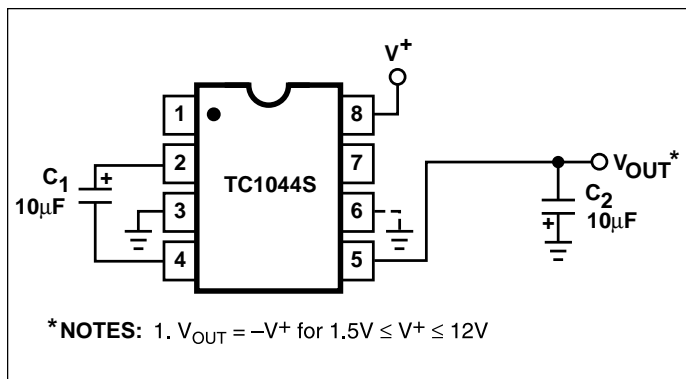
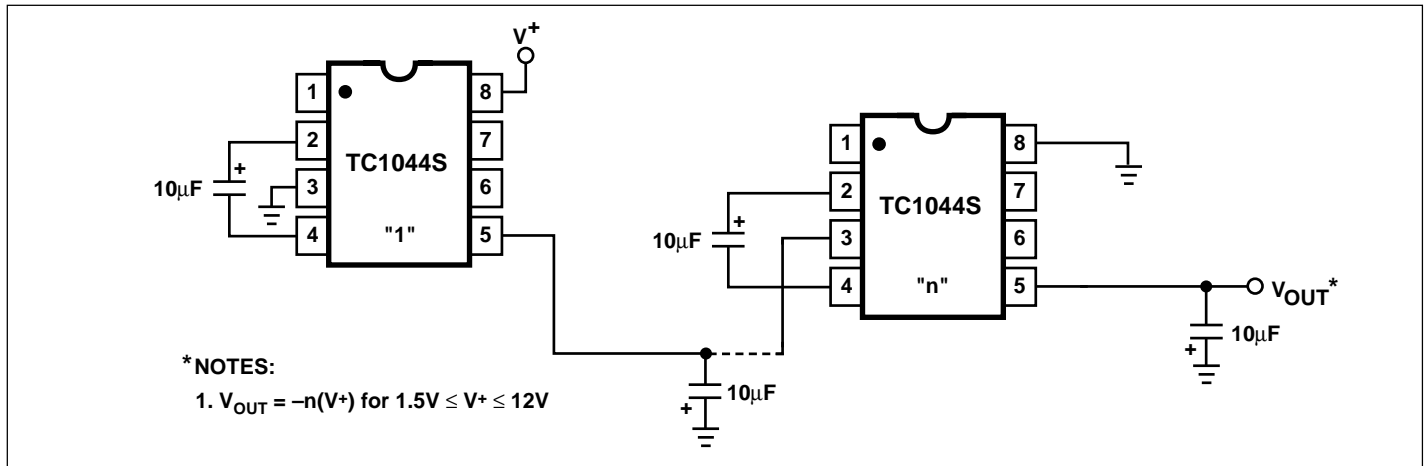
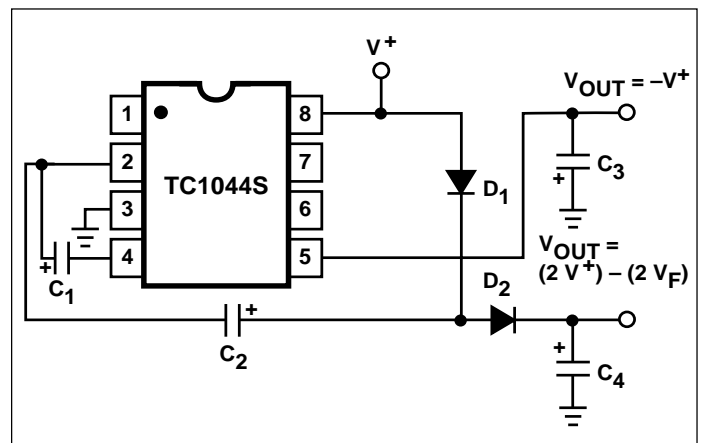
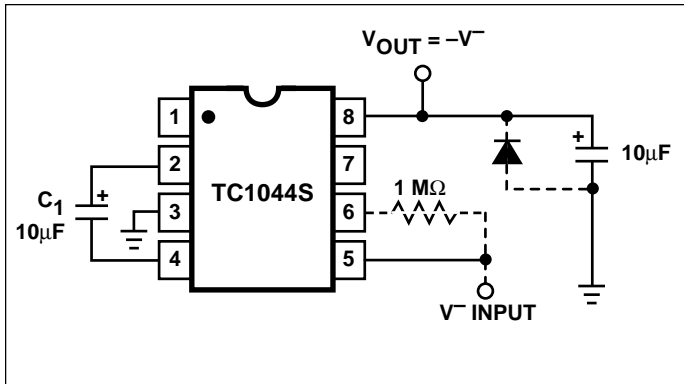

Figure 3. Simple Negative Converter
Figure 5. Increased Output Voltage by Cascading Devices
Figure 9. Combined Negative Converter and Positive Multiplier
Figure 10. Positive Voltage Conversion
Figure 3 shows typical connections to provide a negative supply where a positive supply is available. A similar scheme may be employed for supply voltages anywhere in the operating range of +1.5V to +12V, keeping in mind that pin 6 (LV) is tied to the supply negative (GND) only for supply voltages below 3.5V.
The output characteristics of the circuit in Figure 3 are those of a nearly ideal voltage source in series with  $70\Omega$ . Thus, for a load current of  $-10\text{mA}$  and a supply voltage of  $+5\text{V}$ , the output voltage would be  $-4.3\text{V}$ .
The TC1044S may be cascaded as shown (Figure 5) to produce larger negative multiplication of the initial supply voltage. However, due to the finite efficiency of each device, the practical limit is 10 devices for light loads. The output voltage is defined by:
Figure 9 combines the functions shown in Figures 3 and 8 to provide negative voltage conversion and positive voltage multiplication simultaneously. This approach would be, for example, suitable for generating +9V and -5V from an existing +5V supply. In this instance, capacitors  $C_1$  and  $C_3$  perform the pump and reservoir functions, respectively, for the generation of the negative voltage, while capacitors  $C_2$  and  $C_4$  are pump and reservoir, respectively, for the multiplied positive voltage. There is a penalty in this configuration which combines both functions, however, in that the source impedances of the generated supplies will be somewhat higher due to the finite impedance of the common charge pump driver at pin 2 of the device.
Since the switches that allow the charge pumping operation are bidirectional, the charge transfer can be performed backwards as easily as forwards. Figure 10 shows a TC1044S transforming -5V to +5V (or +5V to +10V, etc.). The only problem here is that the internal clock and switch-drive section will not operate until some positive voltage has been generated. An initial inefficient pump, as shown in Figure 9, could be used to start this circuit up, after which it
will bypass the other ( $D_1$  and  $D_2$  in Figure 9 would never turn on), or else the diode and resistor shown dotted in Figure 10 can be used to "force" the internal regulator on.
The same bidirectional characteristics used in Figure 10 can also be used to split a higher supply in half, as shown in Figure 11. The combined load will be evenly shared between the two sides. Once again, a high value resistor to the LV pin ensures start-up. Because the switches share the load in parallel, the output impedance is much lower than in the standard circuits, and higher currents can be drawn from the device. By using this circuit, and then the circuit of Figure 5, +15V can be converted (via +7.5V and -7.5V) to a nominal -15V, though with rather high series resistance (~250Ω).